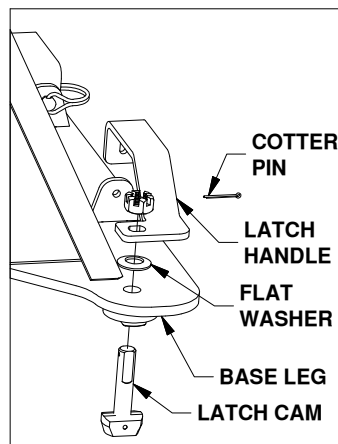

Figure C3: List of latch parts.
- Adjust the tension in the latch handle,** for parts list and visual guide refer to Figures C3 and C4.